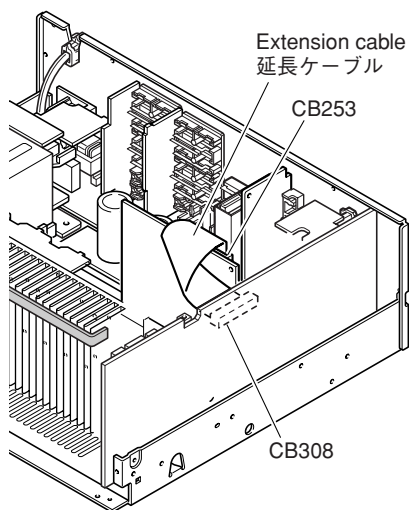

Fig. 9
- c. Replace the flexible flat cable connecting CB253 of MAIN (3) P.C.B. and CB308 or FUNCTION (1) P.C.B. with the extension cable specified below. (Fig. 9)
- c. MAIN (3) P.C.B. CB253 and FUNCTION (1) P.C.B. CB308 are connected by FLEXIBLE FLAT CABLE. Replace with the service extension cable specified below. (Fig. 9)